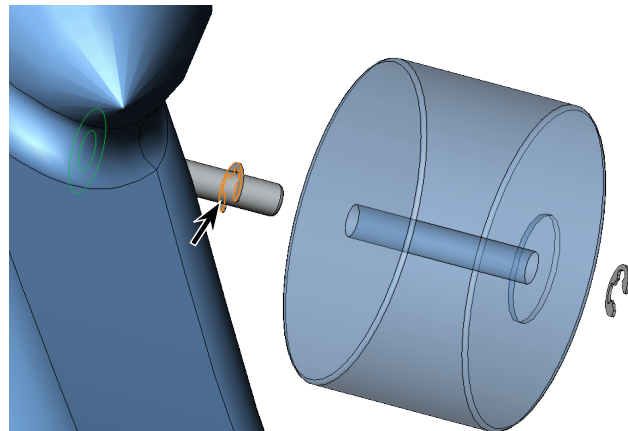

Fig. 28
Step 2. Use **Right arrow** key to rotate assembly to view side face of **inside face of E-Clip3**, **Fig. 28**.
Step 3. Click **inside face of E-Clip3**, **Fig. 28**.